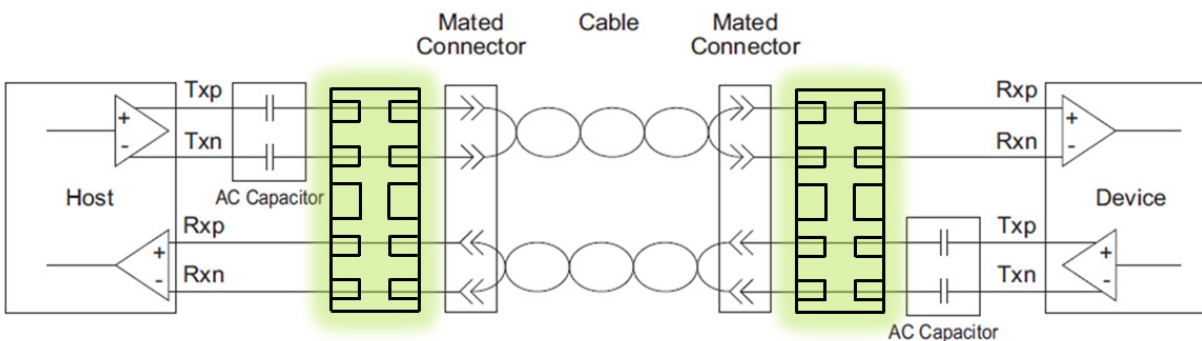

Figure 8. USB 3.0 Connection Diagram
- In USB 3.0 applications, the ESD protection device should be placed between the AC coupling capacitors and the I/O connector on the TX differential lanes as shown in Figure 8.